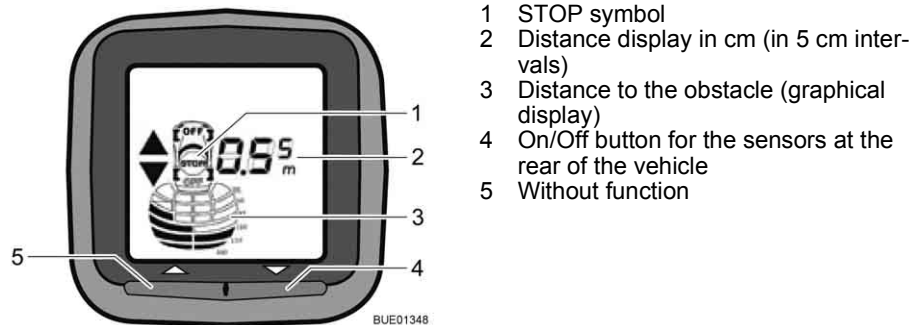

Fig. 13 Park Boy V display unit
In the passenger compartment, a display unit (Fig. 13) shows the distance to the obstacle. At the same time, an acute signal sounds as a warning.
- Press the On/Off button (Fig. 13,4). The display illuminates and the vehicle symbol appears in the display. The parking distance control is ready to measure.
- Press the On/Off button (Fig. 13,4). The parking distance control can be switched off at all times independent of the selected switch-on method using the On/Off key.
The distance between the vehicle and the obstacle is issued in three ways: The display (Fig. 13) shows the distance in steps of 5 cm. The shortest distance measured by a sensor is shown.